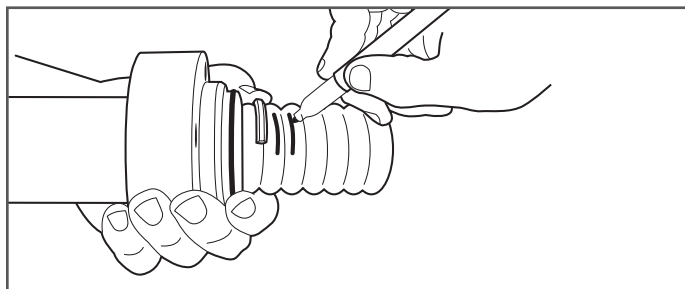

Figure 7-17
- 18.** Mark DoubleTrac® piping for final cut. Once the middle section of the fitting has bottomed out on piping, place one split ring half in the corrugation closest to the middle section of the fitting. Ensure split ring drops into first corrugation freely. Place a mark on top of the first two corrugations that are past the split ring (Figure 7-17).